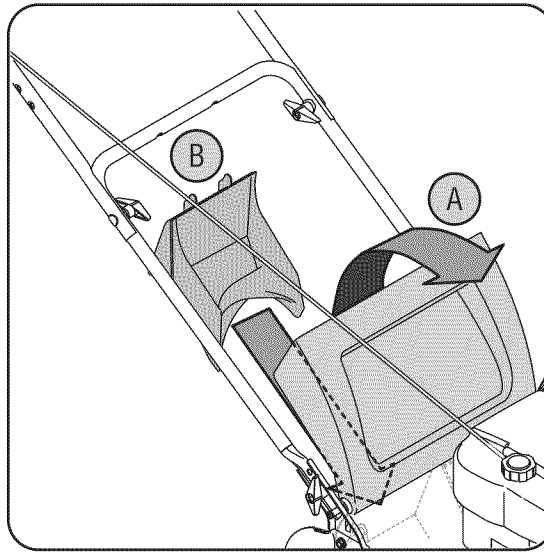

Figure 5
- b. Insert the mulching baffle as shown in Figure 5 and release the rear discharge door.